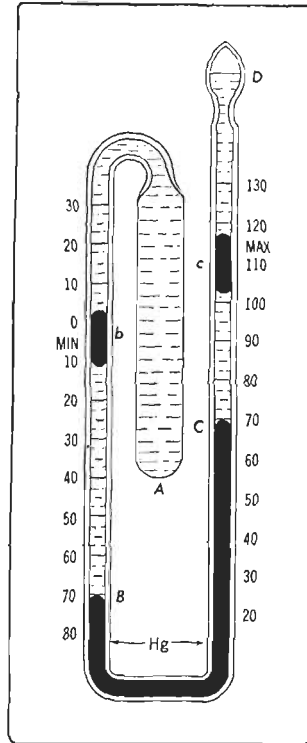

Fig. 10.9. A Six maximum and minimum thermometer.
*Six's thermometer* is a combination maximum and minimum thermometer which is often used in weather bureaus. (See Fig. 10.9.) The bulb *A* and the bore up to *B* contain alcohol. From *B* to *C* the bore is filled with mercury, and from *C* to *D* there is more alcohol. Two small iron indexes are in the bore — one above *B* and the other above *C*. These are held in position by small steel springs. When the temperature rises the alcohol in *A* expands and pushes the mercury along the tube. The mercury pushes the index *c* up the tube and later when the temperature falls it remains to indicate the highest temperature that occurred. Also when the temperature falls the alcohol in *A* contracts, the mercury at *B* rises, and the index *b* is pushed up to the lowest temperature. Consequently the lower ends of *c* and *b* indicate the highest and lowest temperatures which occurred. The thermometer is reset by drawing the indexes down to the mercury with a small horseshoe magnet.